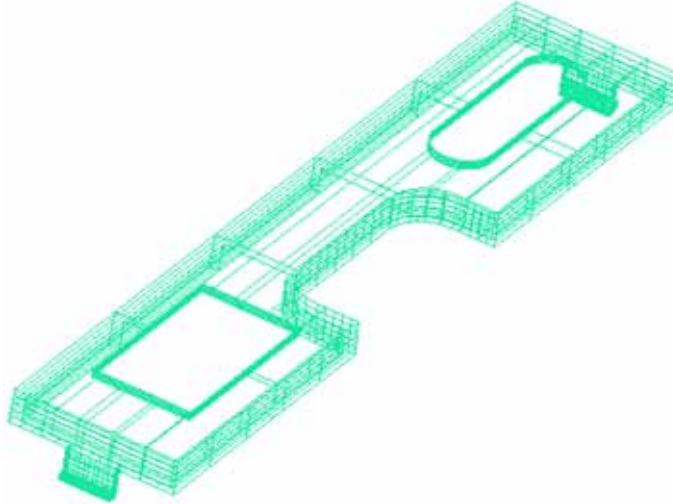

Figure 5: IGES Representation of the Snap Cover Model
- The imported model should look like Figure 5.
The IGES model shown in Figure 5 has been displayed using the Net setting. IGES surfaces can also be displayed as: